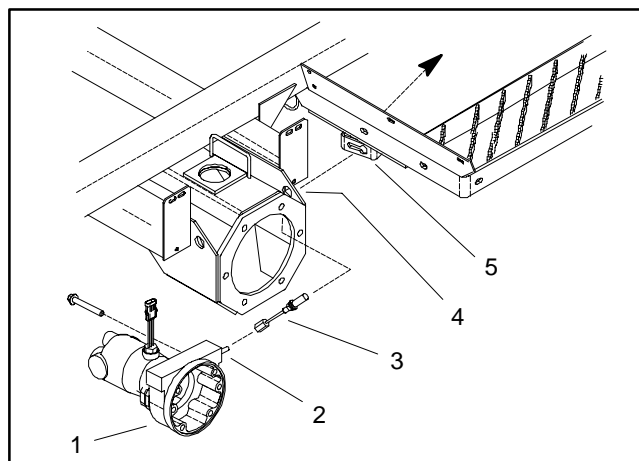

Figure 12
2. Remove brake cable from rear brake (Fig. 12):